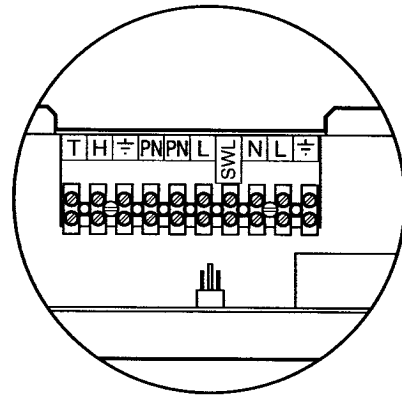

Fig. 17
6. Connect live, neutral, earth, and switched live to L, N,  $\ominus$  & SL of the terminal strip. The pump live, neutral and earth should be connected to PL, PN &  $\ominus$  of the terminal strip (Fig. 17).